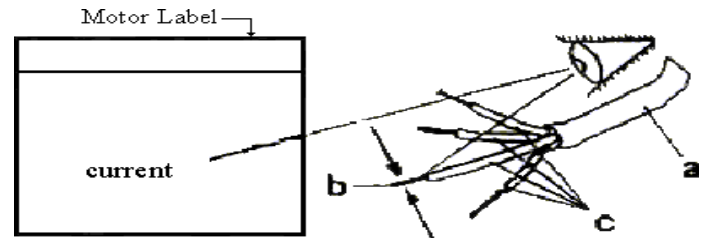

Figure 7
- The cable cross-section mm^2 (b) of the conductors (c) (conductors) of the Supply Cable (a) must not be less than the ratio given below. (Figure 7) $\text{CURRENT (A)}/4$
- Current values are given on the motor plate and in the technical documents. (Figure 7)